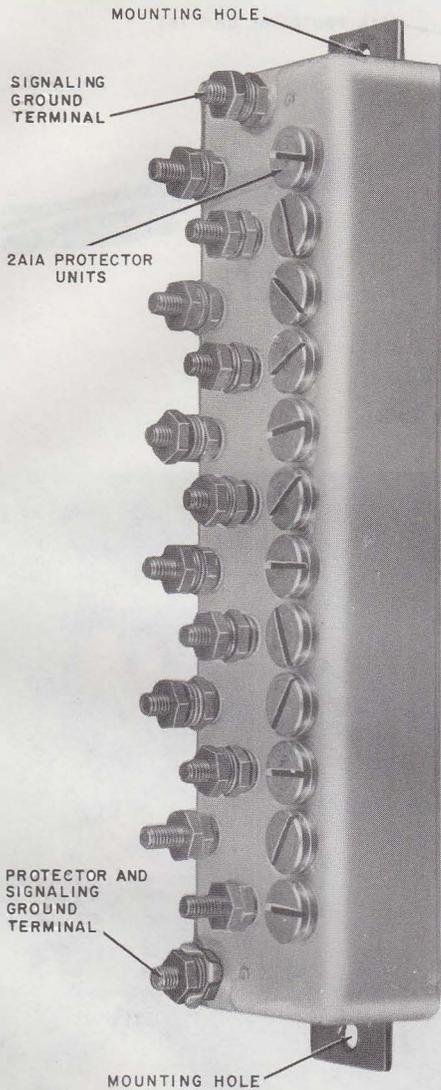

Fig. 13—117B Protector
3.16 The **117B protector** (Fig. 13) consists of a nonconductive base containing twelve binding posts, twelve 2A1A protector units, one binding post for signaling ground, and one binding post (equipped with a pronged washer) for signaling ground and protector ground. The 117B protector should be grounded with a wire no smaller than a No. 10 ground wire (see Table B). The 117B protector is designed for indoor use and is generally used with 6-pair multiple drop wire.